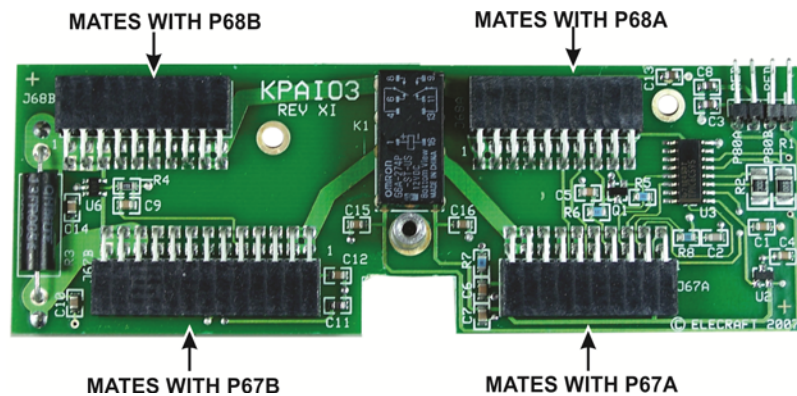

Figure 18. KPAIO3 Connectors.
In extreme cases of corrosion or overheating there may be damage to the connectors on the KPAIO3 interface board (see Figure 18, on pg 10). Female connectors are included to replace them if needed, or you may choose to replace the KPAIO3 board assembly. A replacement KPAIO3 is not included in the kit, but you can order one separately if needed. Order E850271 from parts@elecraft.com.
- If any of the pins you removed showed corrosion or discoloration, the female connectors in the KPAIO3 board are damaged as well. The female connectors are already gold plated, and do not need to be replaced unless heat or corrosion is evident on the corresponding male connectors (see Figure 18). If needed, replace the connectors one at a time as follows: